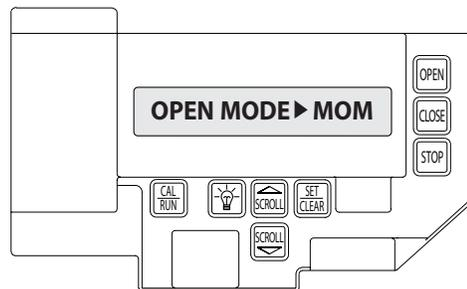

Figure 9
- 2) Press SCROLL  until display reads "OPEN MODE>MOM" or "OPEN MODE>C-STP." **Figure 9.**
- 2) Press SCROLL  until display reads "CLOSE MODE>MOM," "CLOSE MODE>C-STP" or "CLOSE MODE>C-REV." **Figure 9.**